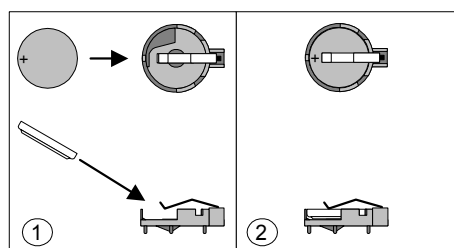

Figure 33: Removing the Battery
The battery is listed as board component 'Y' on the diagram on Figure 33.
5. Figure 33 shows the battery location. Gently pry the battery free from its socket, taking care to note the "+" and "-" orientation of the battery (Figure 33).